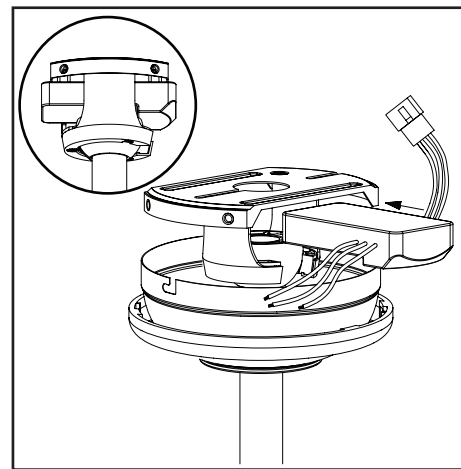

Figure 10
2. Insert the narrow end of the receiver (as shown, flat side toward ceiling) into the slide-on mounting bracket until it rests on top of the ball/downrod assembly. (Figure 10)